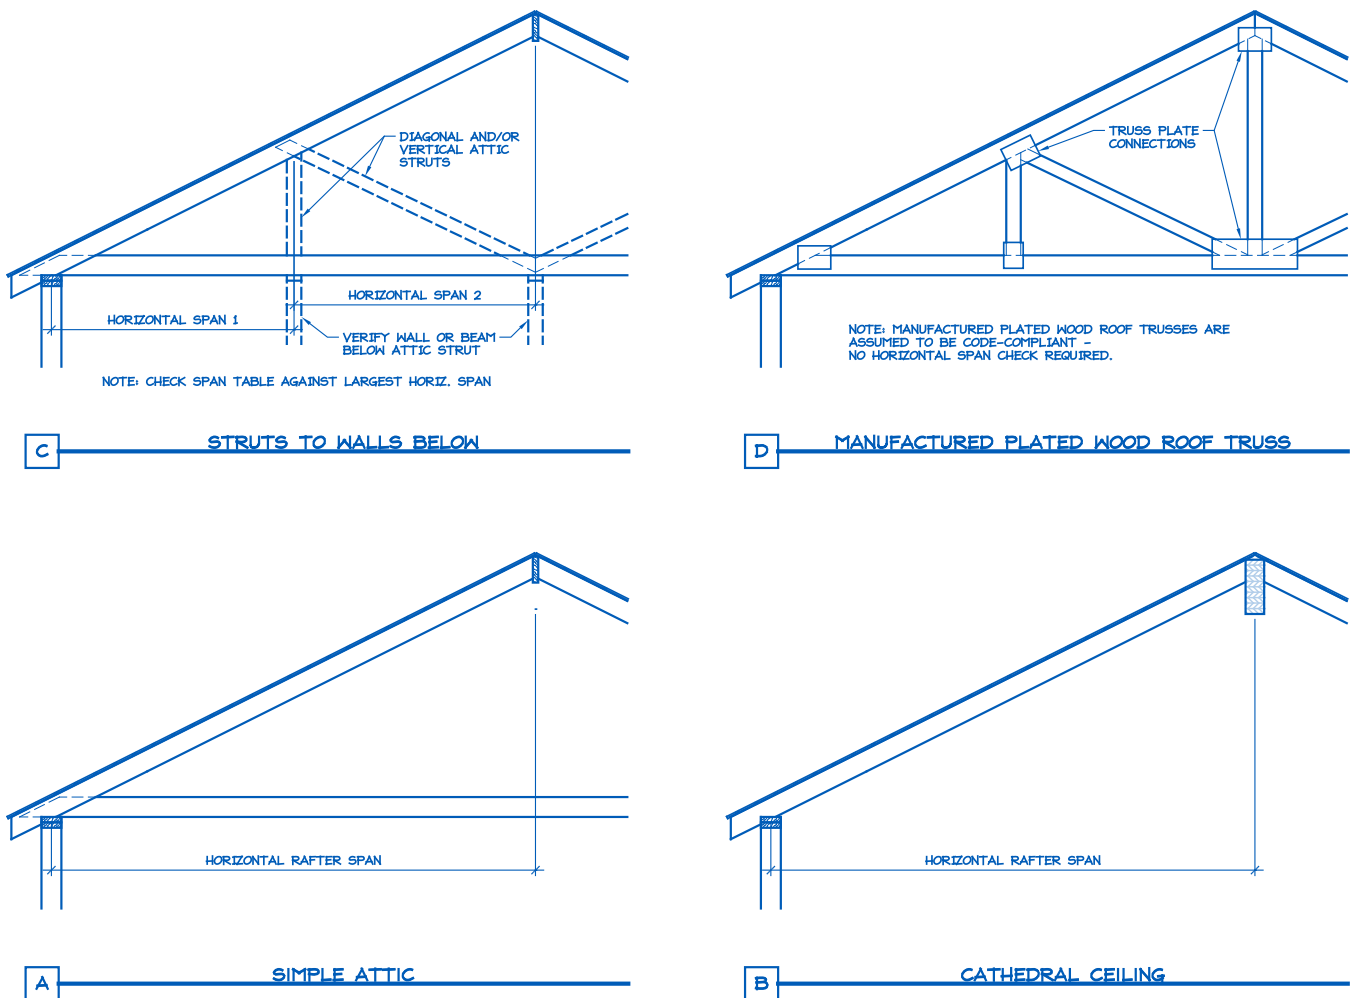

Figure 4. Definition of Rafter Horizontal Span.
- 5) Measured rafter horizontal span (see Figure 4): _____' - _____"ft-in
1. See **Figure 4** for definition of roof rafter maximum horizontal span.